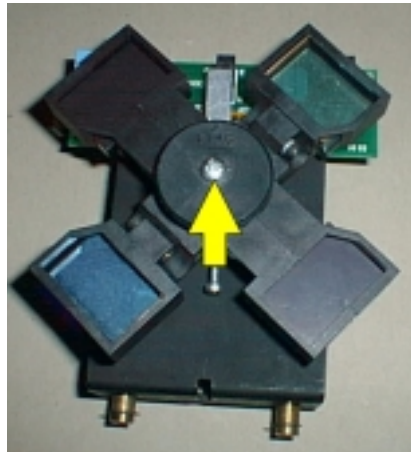

Figure 95 The central screw
2. Undo the central screw, as shown in Figure 95.